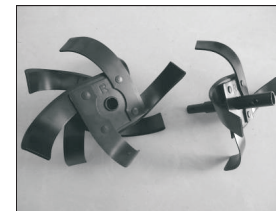
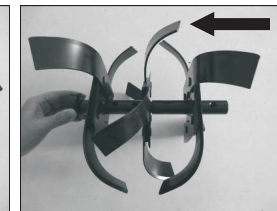

Fig. 2A
Fig. 2B
1. Connect the right blade assembly as shown Fig. 2A/ Fig. 2B.